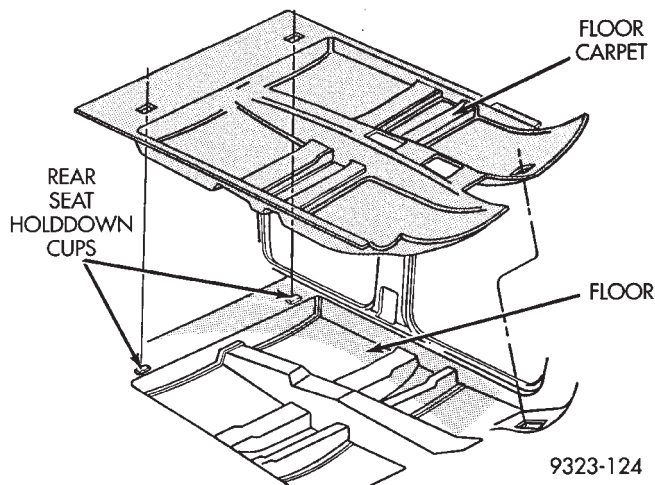

Fig. 68 Floor Carpet
- (1) Remove door sill trim covers.
- (2) Remove cowl side trim covers.
- (3) Remove front seats.
- (4) Remove bolts holding seat belt lower anchors to floor below B-pillar trim panels.
- (5) Remove center console, if equipped.
- (6) Remove rear seat air distribution duct, if positioned above carpet.
- (7) Remove rear seat cushion.
- (8) Separate carpet from vehicle (Fig. 68).